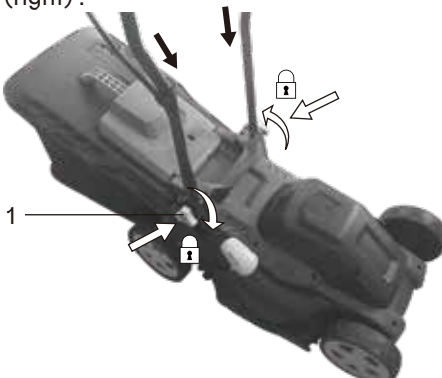

FIG.1
To reduce the risk of disconnection of lawn mower from the extension cord during operating: Make a knot as shown in Fig. 1;
1. Align the mounting hole of the lower handlebar with the fixing bolt of handle support (Fig.1)
2. Attach the washer to the bolt and secure the lower handlebar by turning the knob (1) clockwise for tightening.